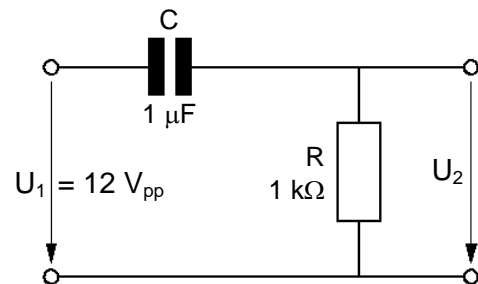

Fig. 17.2.1: RC-element as high-pass filter
- Assemble the circuit in Fig. 17.2.1 on the Electronic Circuits Board.
- Set the function generator for U_1 to a sine-wave voltage of $U_{\text{pp}} = 12 \text{ V}$ (Fig. 17.2.1). Check the amplitude on the oscilloscope.